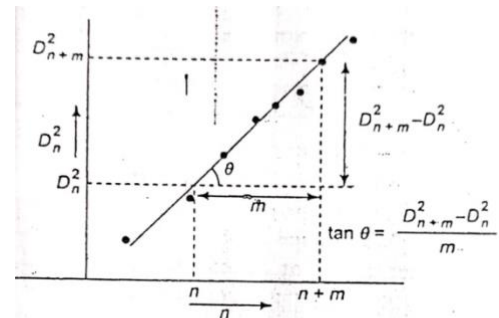

Fig. 1.4. Graph between D_n^2 and n
14. Plot a graph between D_n^2 , and n , which is a straight line (Fig. 1.4) and then find its slope.
Calculations: Graph is plotted between D_n^2 and n as shown in Fig. 1.4.